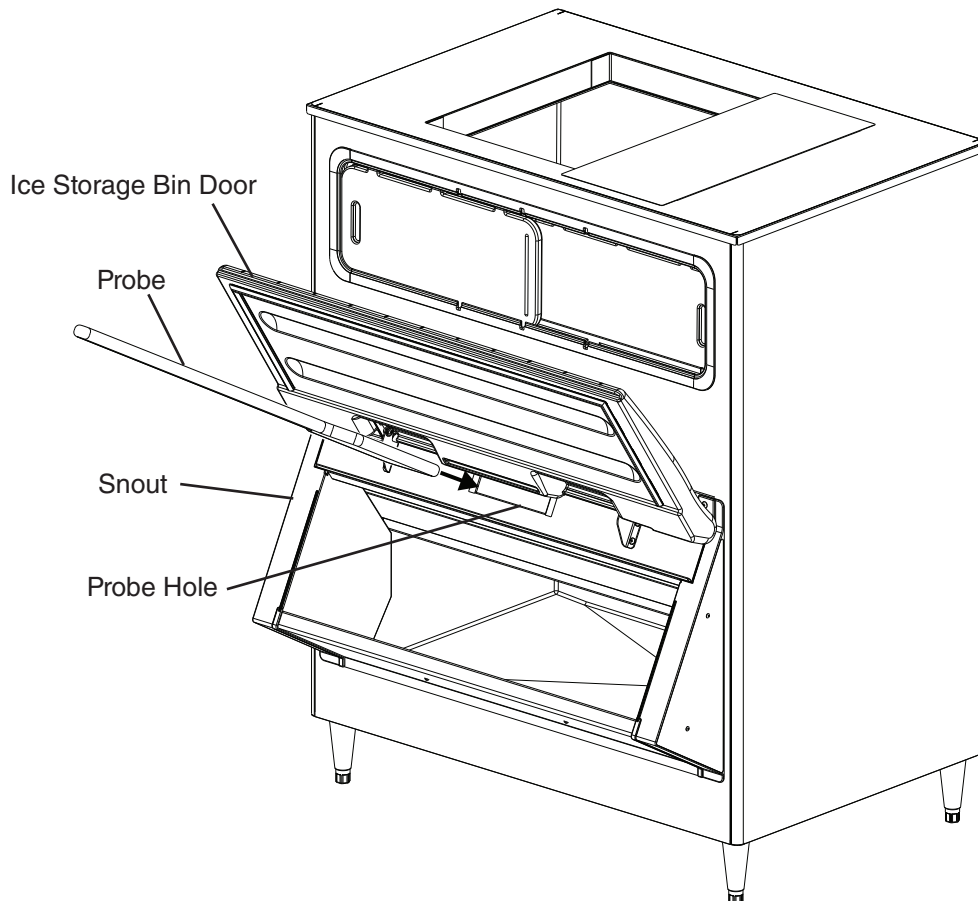

Fig. 5
- 1) Open the ice storage bin door. See Fig. 5.